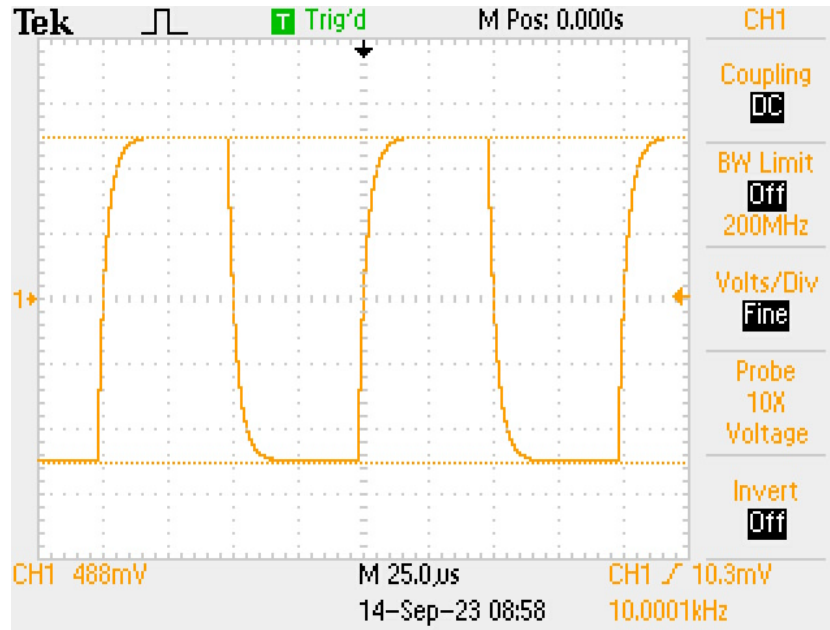

Figure 2.3: Rise Time Oscilloscope setup 1
- (f) Center the waveform vertically. See Figure 2.3 *Rise Time Oscilloscope setup 1*.